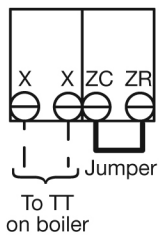

Figure 1A: Cold Start Boiler
- Figure 1A: Cold Start Boiler